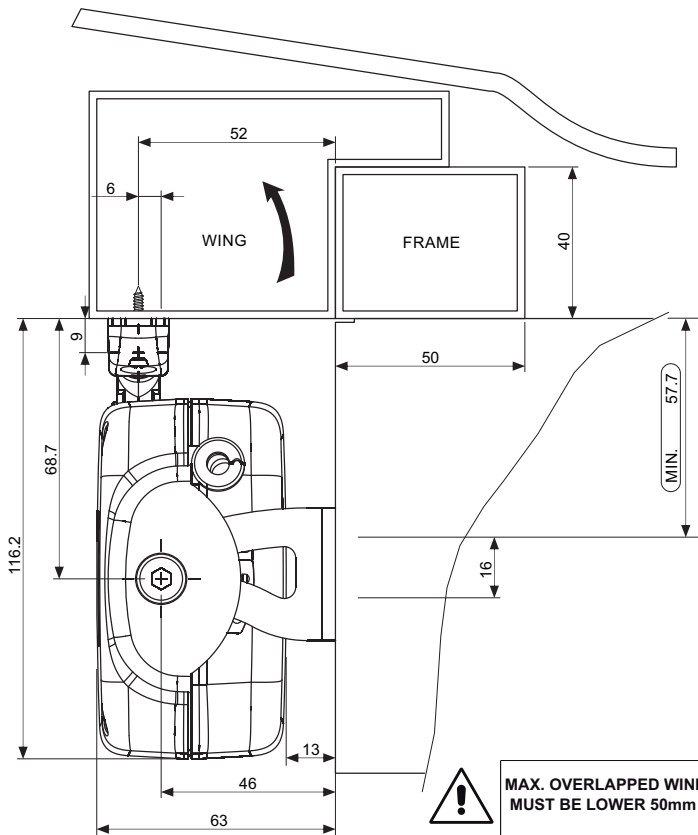

Fig. 13
## 5.2- TOP HUNG WINDOWS (Fig. 7 and Fig. 13 ÷ 20)
- 2) **Fig. 13-** With a pencil draw the centre line "X" of the window frame;